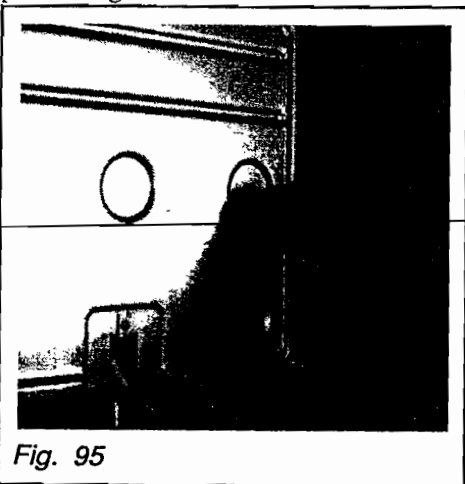

Fig. 95
- To remove front insulation panel - first remove the two spring steel retaining clips by pulling tab away from and then out of, combustion chamber panel. Fig.95.